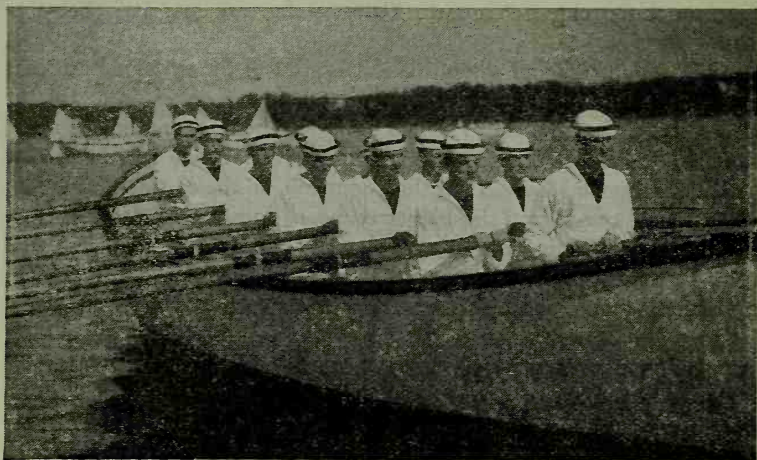

FIG. 10-2—Whaleboat. Position, *Oars*.
**Position No. 1.**—This is the position of *Oars*. (See Fig. 10-2.) The man sits erect, eyes directly astern, oar horizontal and blade flat. Note the position of the hands on the handle of the oar. The wrists are down in order to get the blade flat.